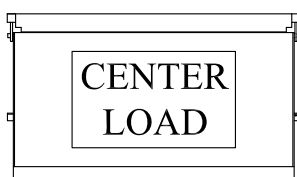

Figure 7: Step 12.
- Step 11. To load and use the liftgate, center the load on the platform side to side and front to back (Figure 7). Put heavier loads as close to the front of the platform as possible (near truck). Platform cart stops may be actuated at this time, if equipped.